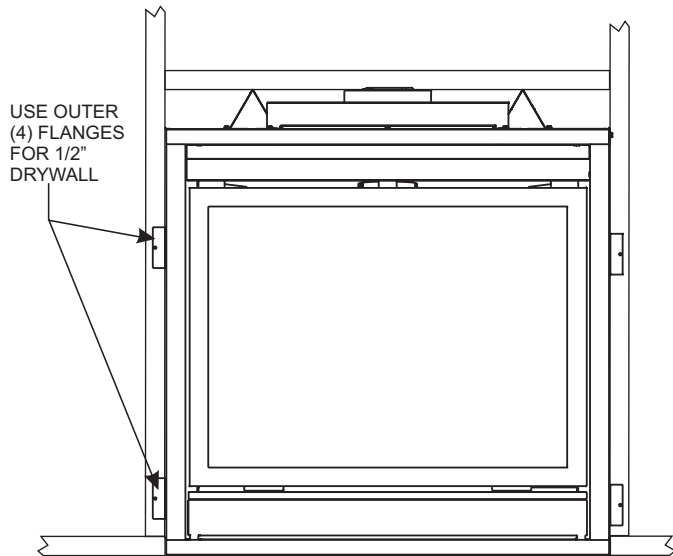
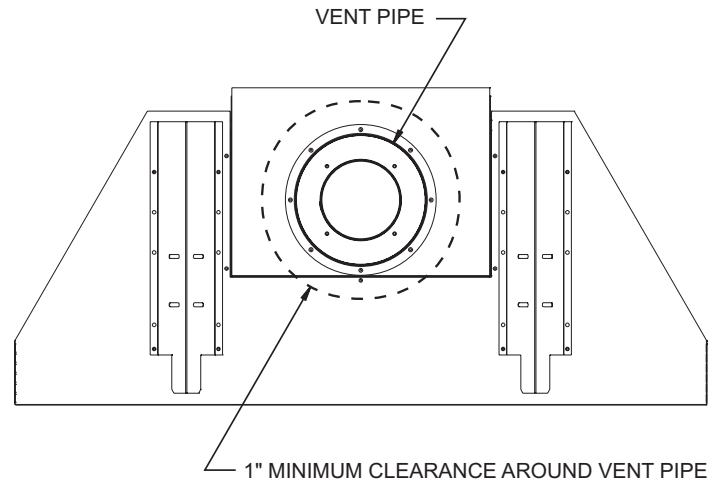

Figure 9
Figure 10
**Note:** Maintain one inch (1") of clearance around vertical vent pipe. **See Fig. 9.** For horizontal vent, maintain a minimum 1" clearance to the bottom and sides of the vent, and 3" clearance above the vent pipe. **See Figure 10.**